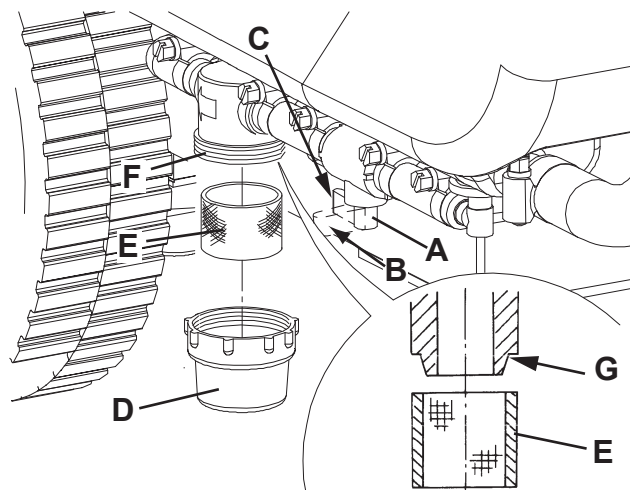

Figure 9
3. Close the solution tap (A, Fig. 9) under the machine, behind the right rear wheel. The tap (A) is closed when it is in the position (B) and it is open when it is in the position (C).
4. Remove the transparent cover (D), then remove the filter strainer (E). Clean and install them on the support (F).